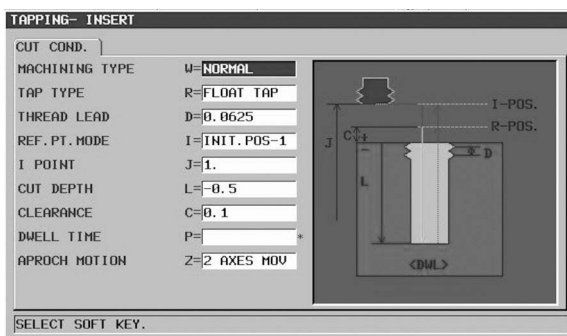

Figure 7-75 TAPPING, CUT CONDITIONS
- Select NORMAL for the MACHINING TYPE, using the soft key shown in Figure 7-75.